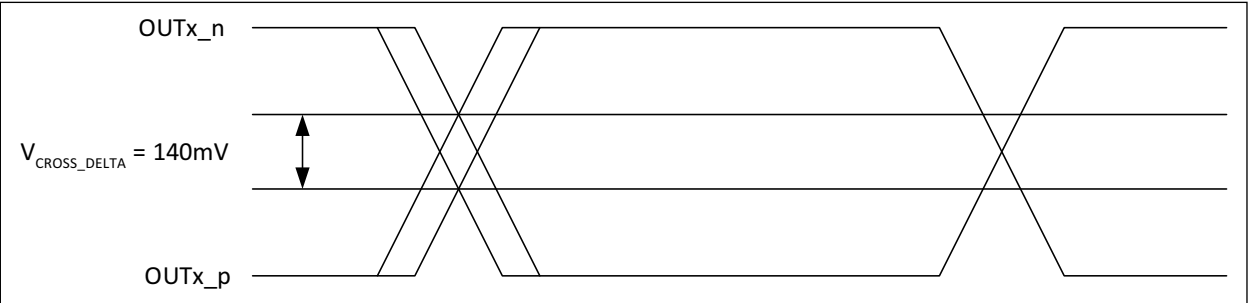

FIGURE 1-2: Single-Ended Measurement Points for Delta Cross Point.
- 6:** Defined as the total variation of all crossing voltages of Rising OUTx_p and Falling OUTx_n. This is the maximum allowed variance in V_{CROSS} for any particular system. See Figure 1-2.